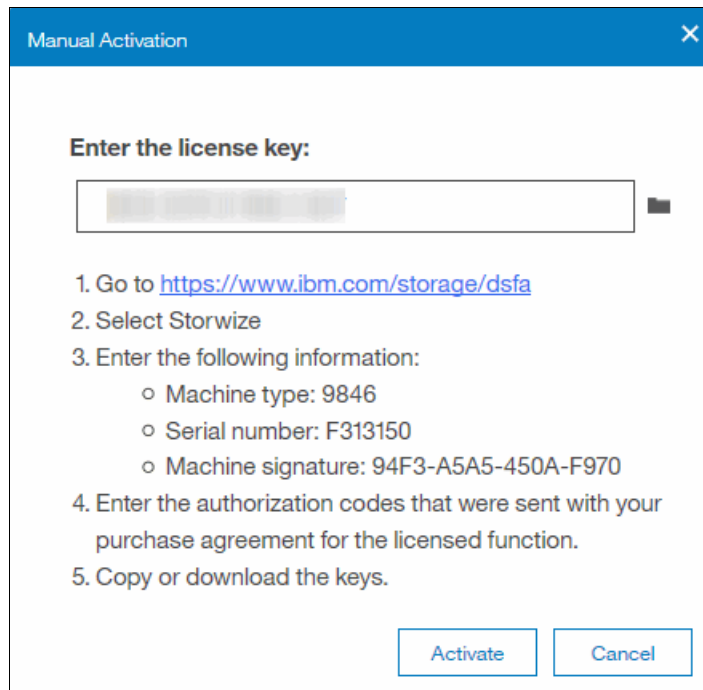

Figure 6-92 Manual activation pane with license key entered
3. In the **Enter the license key** field on the Manual Activation pane, enter the license key for the encryption feature (Figure 6-92).